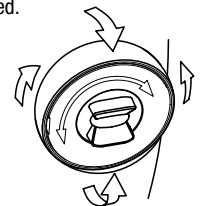

Figure 5
10. Adjust the lamp head and lens direction as needed. (Figure 5)